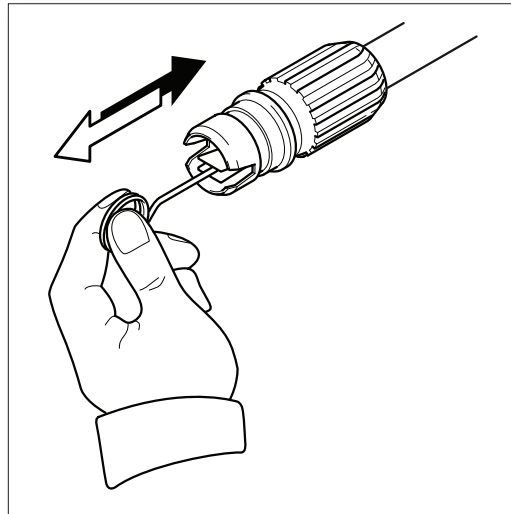

Fig. 23
- Using the nozzle tip cleaner provided (or an unfolded paper clip), insert the wire into the nozzle hole and move back and forth until debris is dislodged (**Fig. 23**). Back /flush water through the nozzle using garden hose and highest pressure available (either standard water nozzle or use your thumb over the nozzle to create water pressure for back flush).